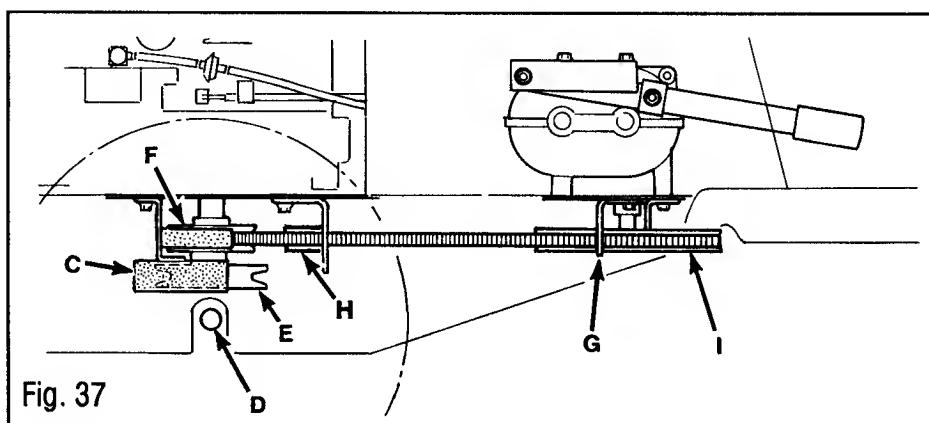

Fig. 37
4. Remove belt guide (C, Fig. 37) behind engine pulley.
A. Place belt into sheave (F). It may be necessary to rotate differential to assemble.
B. Loosen transmission pulley belt guides (G).
C. Loosen idler pulley (H).
D. Place forward portion of belt onto transmission pulley (I).
E. Place belt between idler pulley (H) and belt guide.
G. Re-tighten belt guides (G) $1/8"$ (.32 cm) away from sheave (F).